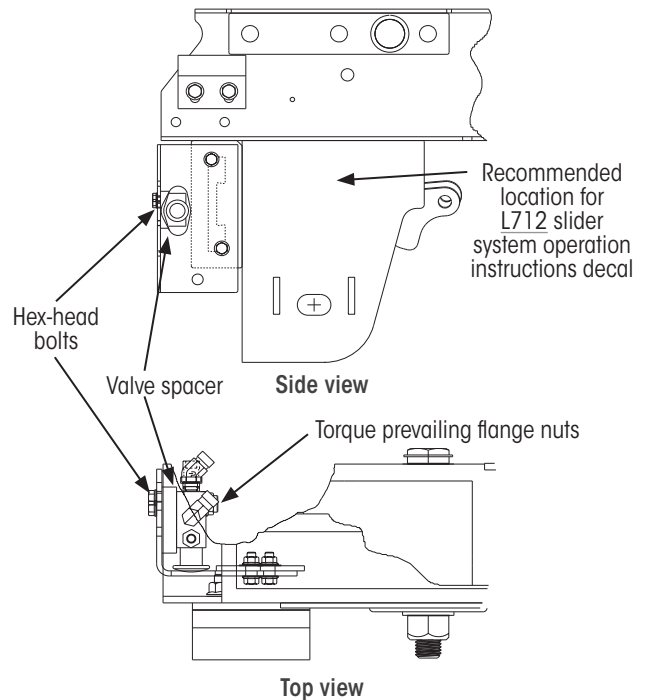

Figure 13: Installing the QUIK-DRAW® control valve
6. **Orient** the QUIK-DRAW control valve so the exhaust hose is facing downward and **place** the control valve, with spacer (if equipped, Figure 13), on the valve mounting bracket.
7. Using the two $\frac{1}{4}$ - 20 x 1.5 inch hex head bolts, provided in the retrofit kit, **insert** the bolts through the QUIK-DRAW valve, spacer (if equipped) and mounting bracket holes (Figure 13).
7. After final painting, **apply** the supplied *L712 Slider System Operating Instructions decal* near the QUIK-DRAW control valve (Figure 13).